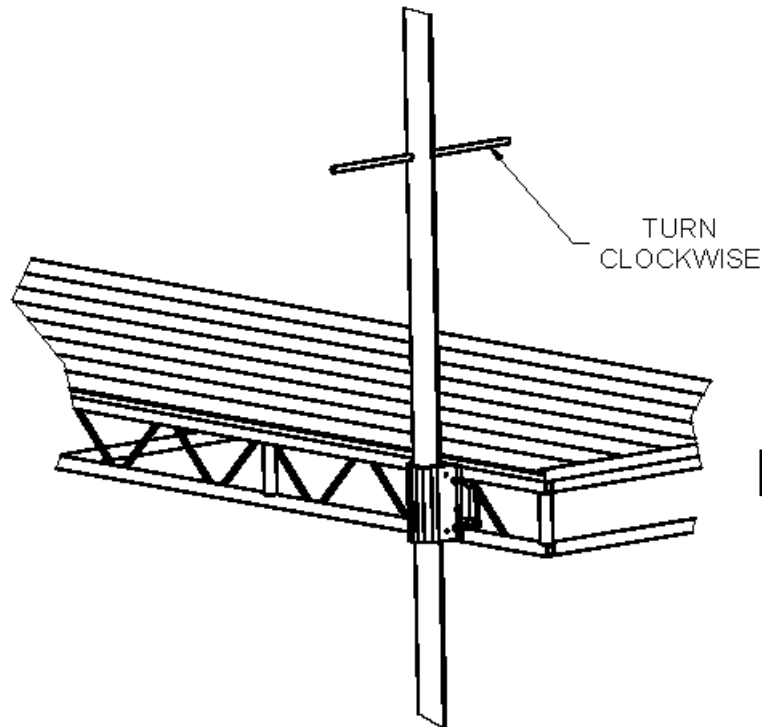

Fig. 4
- Drive the auger into the lake bottom 12". (Shown in Fig. 4)